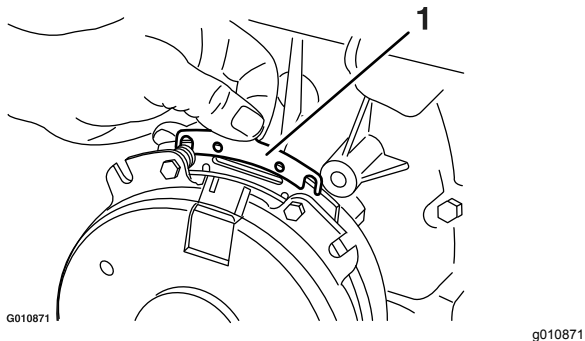

Figure 73
- B. Using needle-nose pliers, or by hand, hold the tab and remove the shim (Figure 73).
Remove any buildup of grass, dirt, or other debris from the engine screen. This helps ensure adequate cooling and correct engine speed and reduces the possibility of overheating and mechanical damage to the engine (Figure 73).